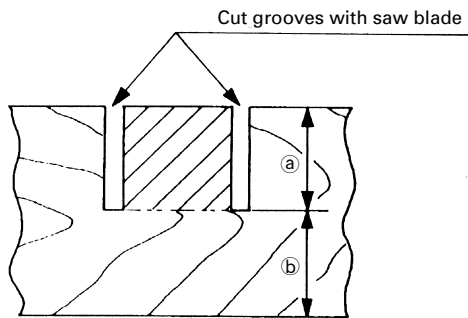

Fig. 41
Grooves in the workpiece can be cut as indicated in Fig. 41 by adjusting the 6mm depth adjustment bolt.
- (1) Lower the motor head, and turn the 6 mm depth adjustment bolt by hand. (Where the head of the 6 mm depth adjustment bolt contacts the hinge.)
- (2) Adjust to the desired cutting depth by setting the distance between the saw blade and the surface of the base (see b in Fig. 41).
- (3) The 8mm wing nut must be properly tightened after the adjustment has been completed.